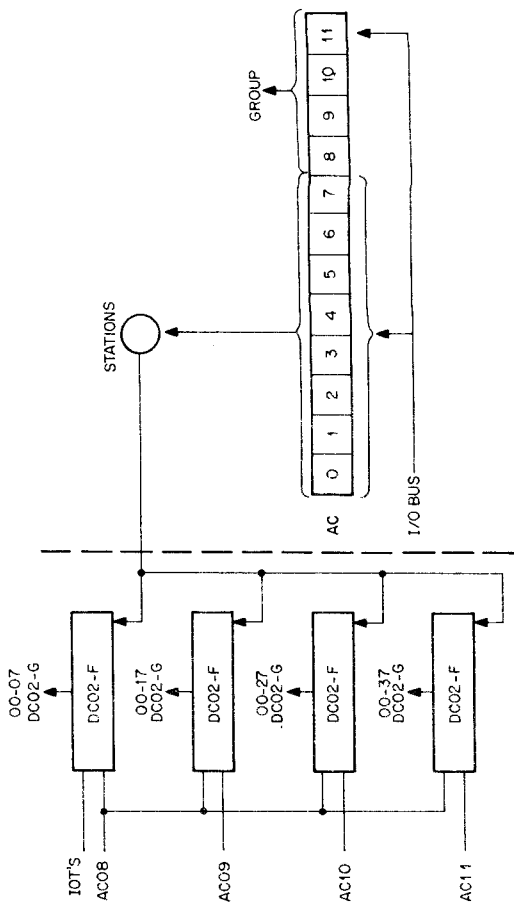

Figure 7-30 Station Selection Operation
Bits 8-11 of the accumulator select the DC02-F control which controls up to eight (8) stations (Figure 7-30). Bits 0-7 of the accumulator select the station within the DC02-F (Figure 1B). Data in the accumulator can be transmitted simultaneously to more than one station, but data from only one station can be received into the accumulator at any given time. Each station has two status flags, a receiver and a transmitter flag. When the receiver flag is set, it indicates that an eight (8) bit word has been assembled in the receiver register and is ready for transfer into the accumulator. When the transmitter flag is set, it indicates that an 8-bit word has been transmitted and the station is ready to transmit another word.
- * AC bits 8-11 select the group (Figure 7-30).